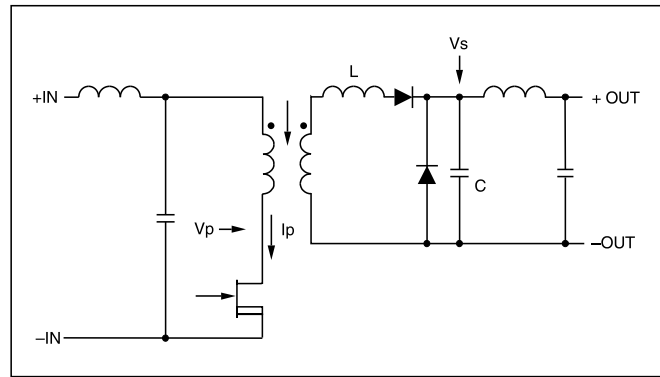

**Figure 9–6** — Basic zero-current-switching converter topology (VI-200 / VI-J00)
VI-200s and VI-J00s both use the same topology, so their operation is very similar. These products are zero-current-switching converters — i.e., the current is zero when the main switch is turned on or off. While the switch is on, the current through the switch or the primary of the transformer is a half-wave rectified sine wave. Similar in operation to a resonant converter, these products are commonly referred to as quasi-resonant converters. The LC resonant frequency is fixed so the on-time of the switch is about 500 ns. When the switch turns on, energy builds up in the leakage inductance of the transformer (L) and then "transferred" into the capacitor on the secondary side of the module. (C, Figure 9–6) The energy processed in each pulse is fixed, and is ultimately the energy stored in this capacitor,  $1/2 CV^2$ . Since the energy in every pulse is fixed, the repetition rate of the pulse train is varied as a function of load to regulate the output voltage. Maximum repetition rate occurs at minimum line, full load and is approximately twice the LC time period or 1  $\mu$ s. If the load drops by 50%, then the repetition rate is approximately one-half of maximum (since the energy in every pulse is fixed). Therefore the pulse repetition rate varies linearly with load, to a first order approximation.